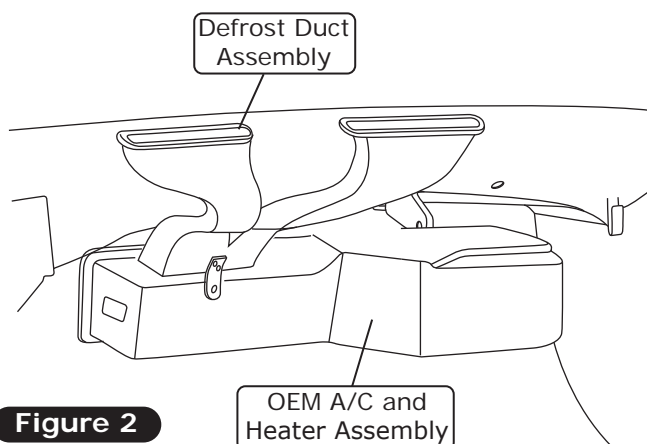

Figure 2
5. Remove the defrost duct assembly (discard) (See Figure 2, below).
6. Remove the OEM A/C and heater assembly (discard) (See Figure 2, below).